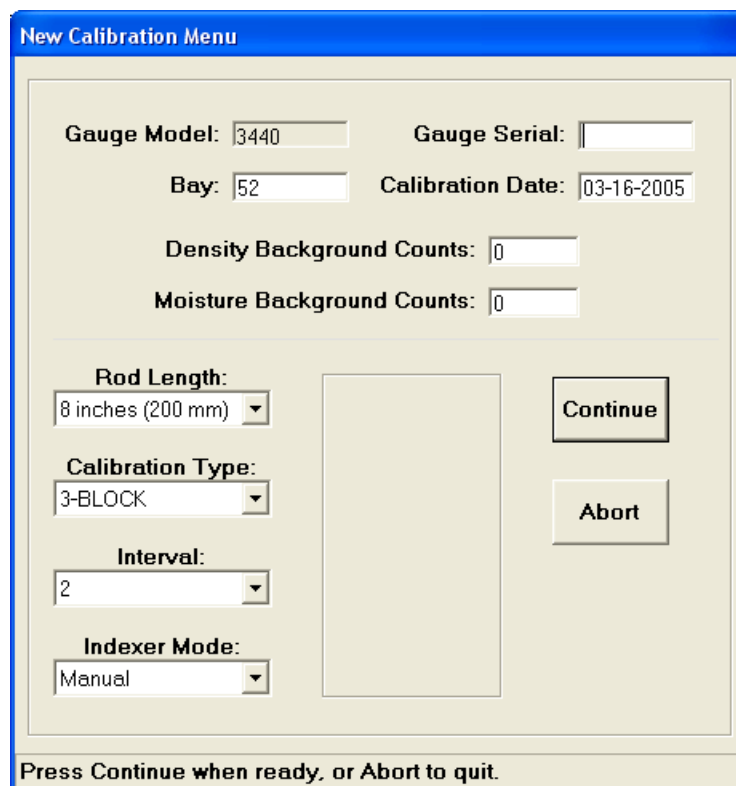

Figure 2–8. Sample New Calibration Menu
6. The **Manual Entry of New Calibration** screen (see the samples in Figure 2–9 and Figure 2–10) is now displayed. The appearance of this screen will differ according to the rod length, interval, and calibration type values selected on the **New Calibration Menu** in step 5. For example, the sample screen shown in Figure 2–9 is for a 12-inch rod, 2-inch interval, and a 3-block calibration. Figure 2–10 is for an 8-inch rod, 1-inch interval, 2-block recalibration.